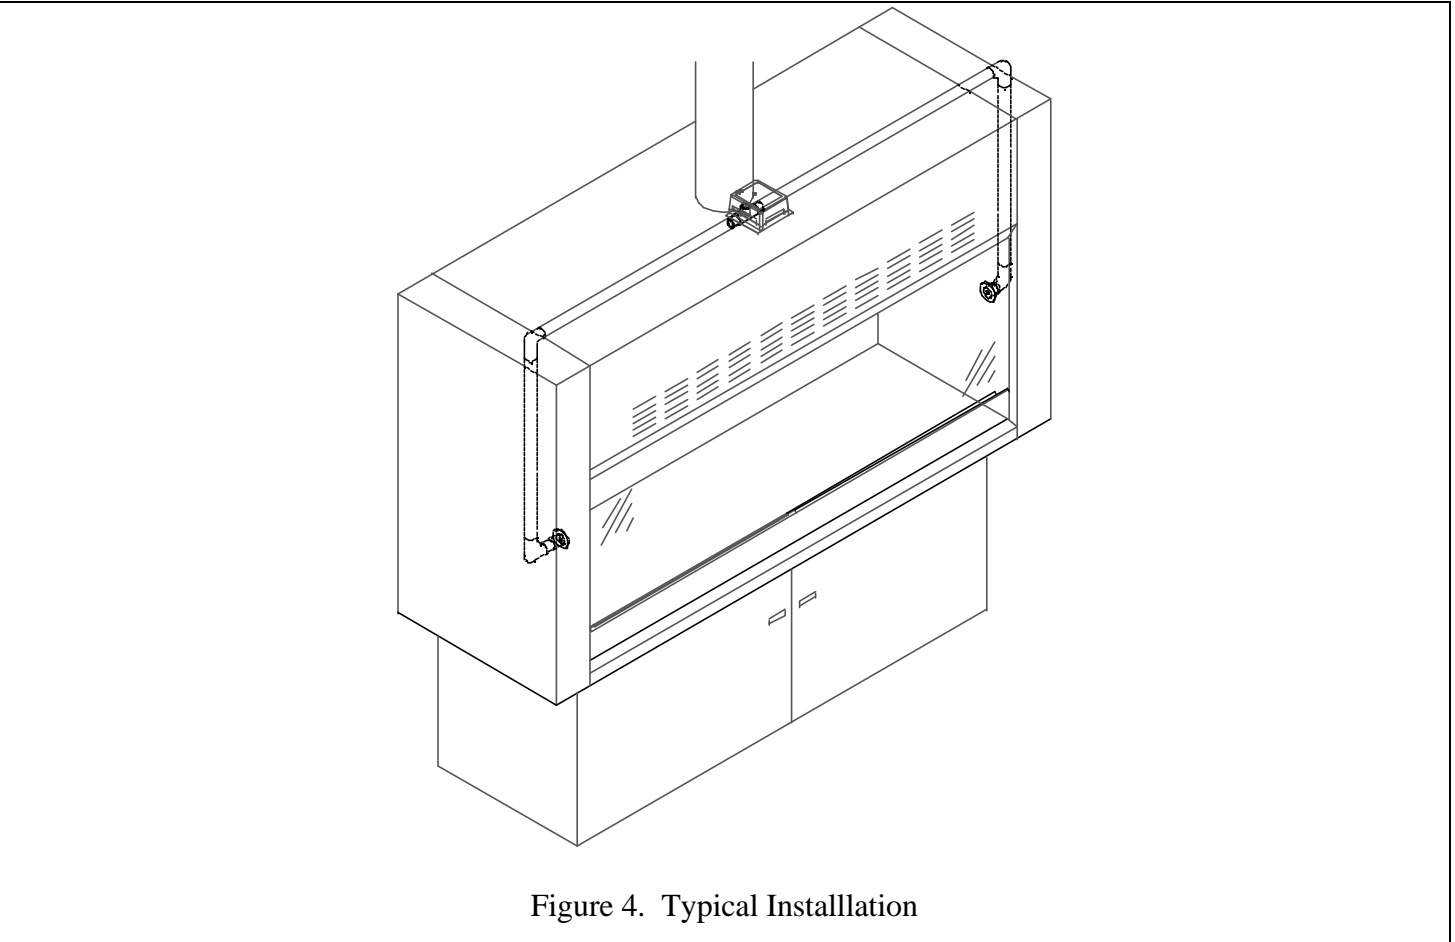

Figure 4. Typical Installation
Step 1: Select location of SENSOR ASSEMBLY, typically laying on top of the fume hood (FIGURE 4). SENSOR ASSEMBLY must be located to reference room air, within 15 ft of the controller. If using an existing velocity sensor, see back of this sheet for sensor assembly.
WARNING: Both sides of tubing must be of equal length. (FIGURE 4).